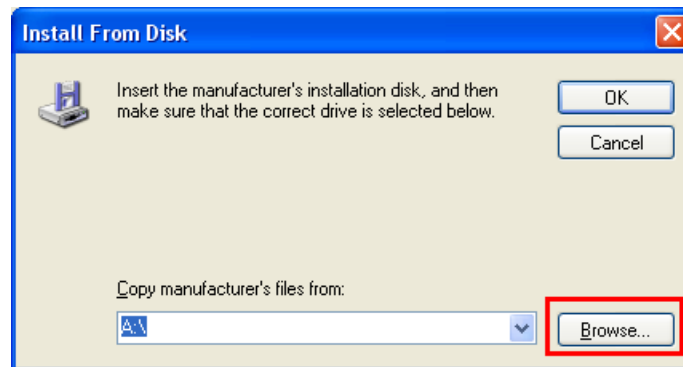

Fig. 2-11 Select the target file of driver
4. Click “Have Disk...”, and a dialog box containing compatible hardware will pop up, as shown in Fig. 2-11